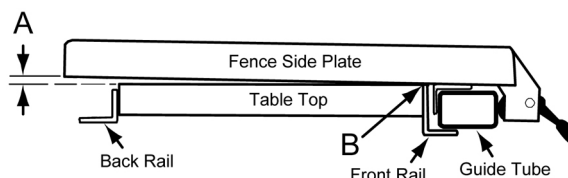

Figure 14
2. View the fence from the left side of the saw (Figure 14). Look for the space *between the table and the fence bottom* to be equal along the entire length of the fence (A, B, Fig. 14).